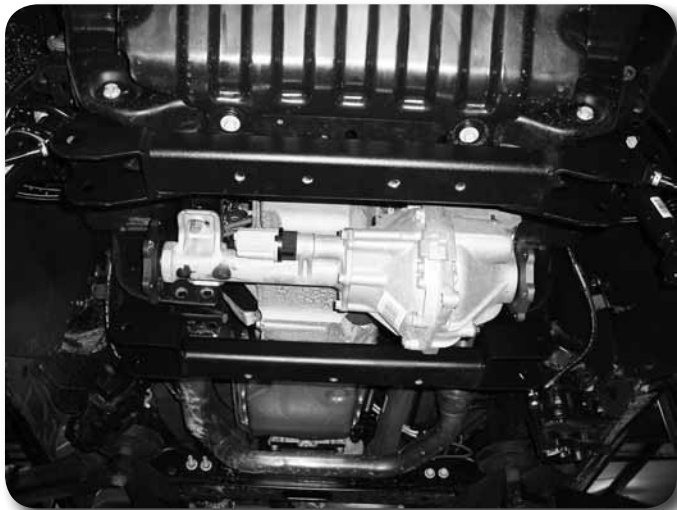

Figure 21
37. Install the new rear crossmember with the factory lower control arm bolts, nuts and washers. When installed the rectangular cross tube should offset closer to the rear of the vehicle **Figure 21**. Run the bolts from front to rear. Leave hardware loose.
38. Install the front crossmember in the control arm pockets with the factory lower control arm bolts, nuts and washers. When installed the offset in the crossmember ends should be toward the front of the vehicle **Figure 21**. Run bolts from front to rear. Leave hardware loose.